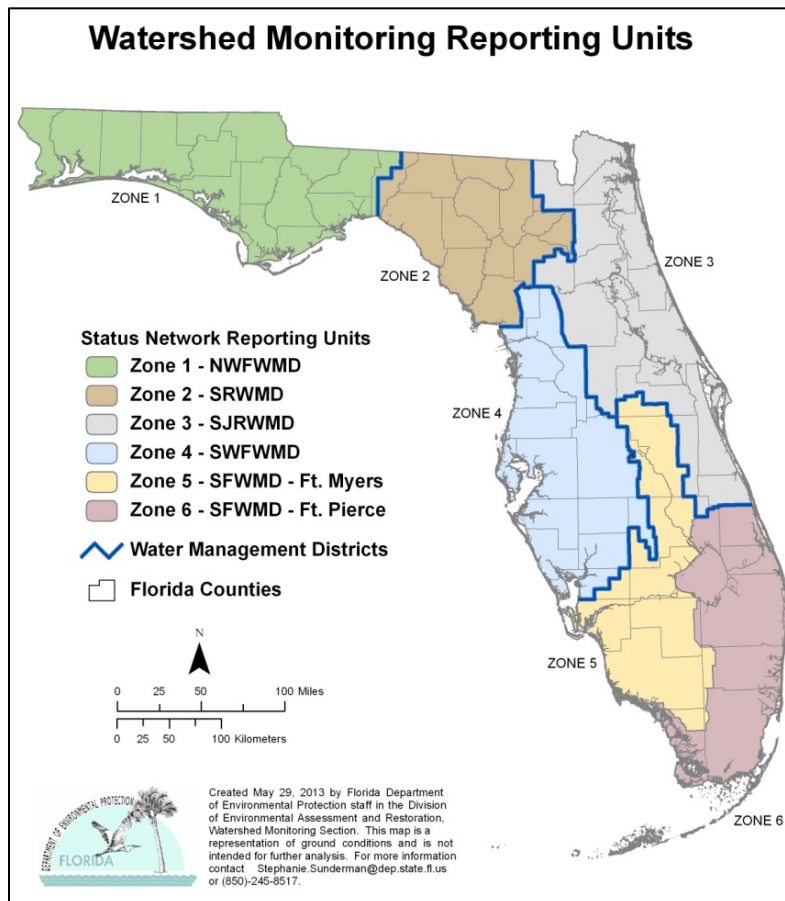

Figure 1. Status Network Reporting Units (Zones).
- **Ensuring that project deliverables are received**, including documentation and Quality Assurance (QA) reports;
Description: The Status Network, funded by the State Water Quality Assurance Trust Fund, is a stratified, random sampling network with predefined reporting units (zones). In this network, surface and ground water sampling locations are chosen in a random, unbiased manner from six statewide zones. The boundaries of these zones are equivalent to the WMD boundaries, except South Florida WMD, which is divided into eastern and western zones (Figure 1). Florida's fresh waters are divided into seven identifiable resource types. Five of the resource types are surface water (SW): rivers (LR), streams (SS), large lakes (LL), small lakes (SL), and canals (CN). The other two resource types are